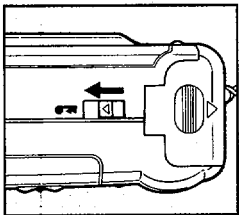

Fig.11 Abb.11 .11
1. After the end of the film has been reached or if you wish to rewind the film before reaching the end of the film, push the Film Rewind Button in the direction of the arrow. The film will automatically rewind. **(Fig. 11)**